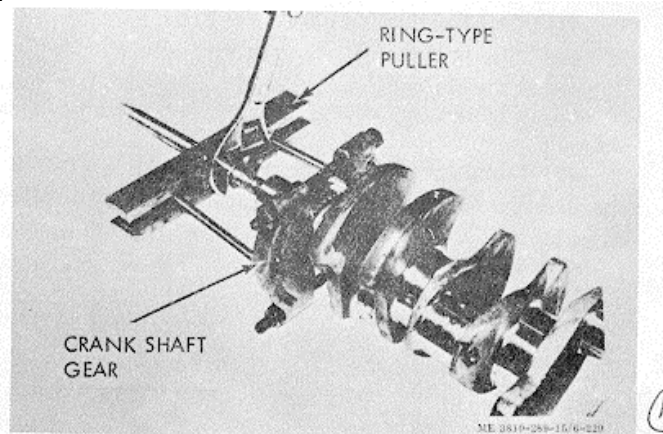

Figure 3-221. Crankshaft gear removal with ring-type puller.
(1) If crankshaft gear is chipped, cracked, broken or worn remove capscrew and washer.
(2) Attach a circular-type puller, as illustrated in figure 3-221, behind the crankshaft gear.
(3) Apply 75 to 100 ft. lbs. on puller screw.
(4) Heat gear with heating torch-not a cutting torch-to 300°/400° F. (148.90/204.40 C.). The gear will expand, making it easier to pull.
(5) Remove gear key.
(6) If crankshaft gear condition is satisfactory, do not remove.